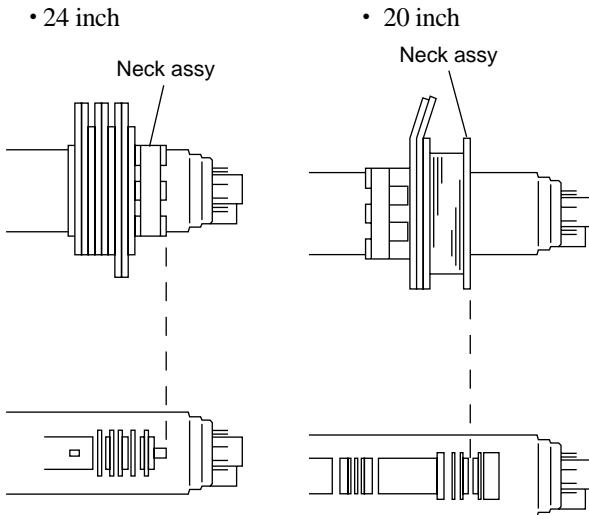

Fig. 1-3
- Fix the neck assembly at the position shown in Fig. 1-3.